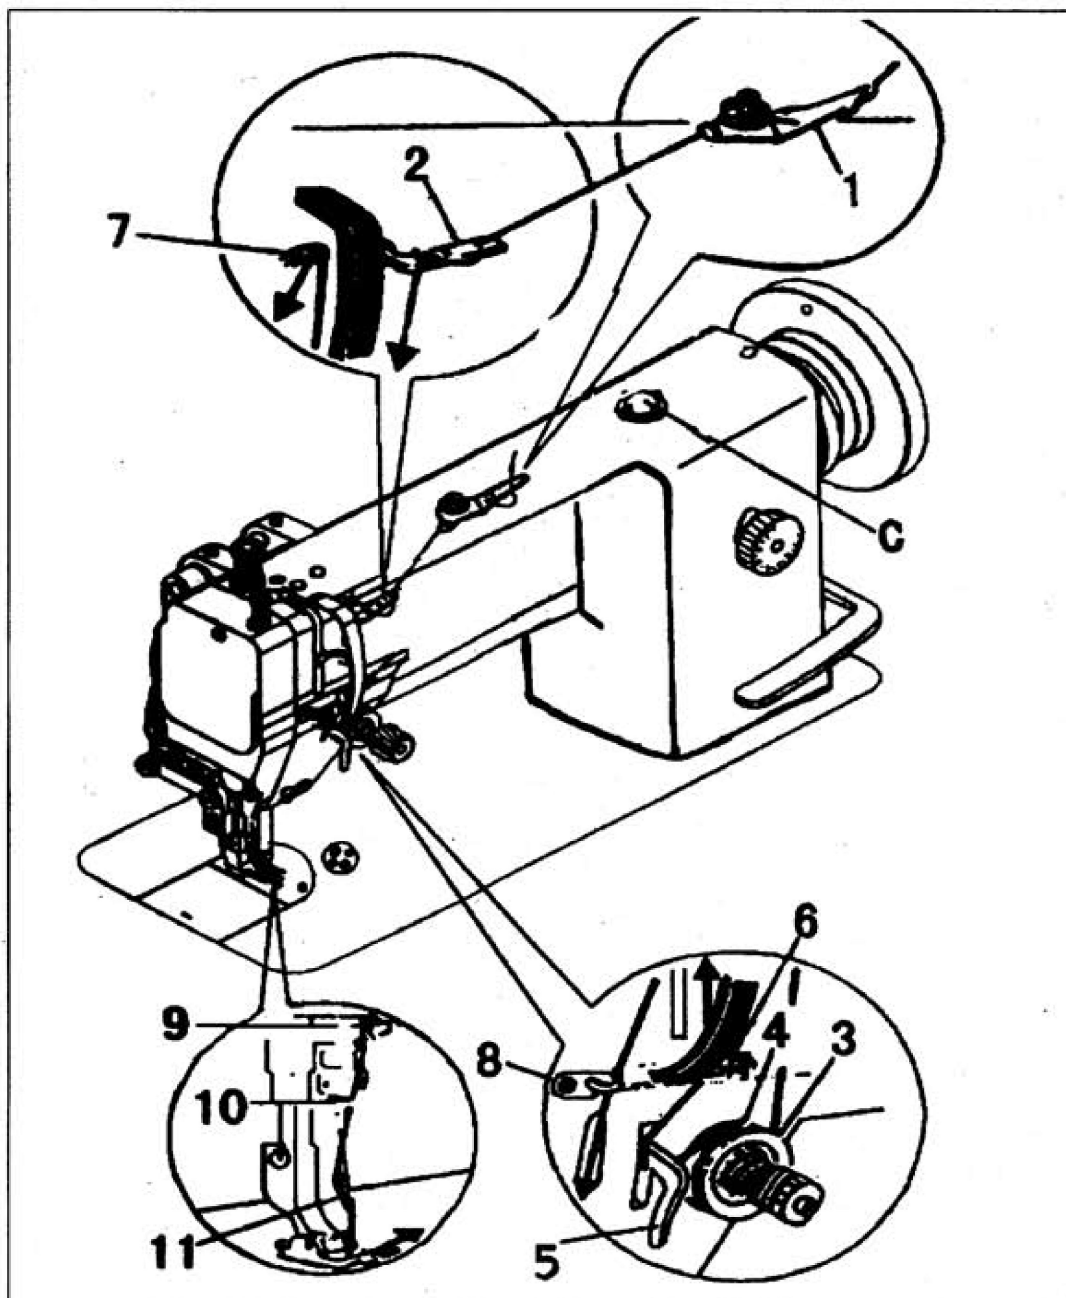

Fig. 6
8. THREADING (Fig.6)
To thread the needle thread, raise needle bar to the upper end of its stroke, lead the thread from spool and perform threading as shown in Fig.6 . To draw the bobbin thread, hold the end of the needle thread and turn the balance wheel to lower the needle bar and then to lift it to its highest position. Pull the needle thread and the bobbin thread is drawn up. Put the ends of needle thread and bobbin thread frontward under presser foot.